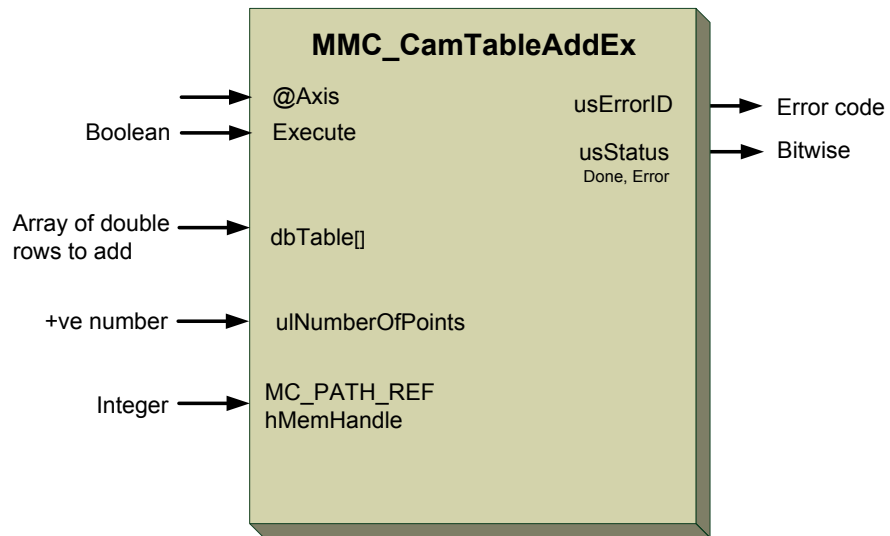

Figure 7-15: MMC\_CamTableAddEx function
**Figure 7-15** describes the function for MMC\_CamTableSetCmd as applied within the IEC 61131 programming.